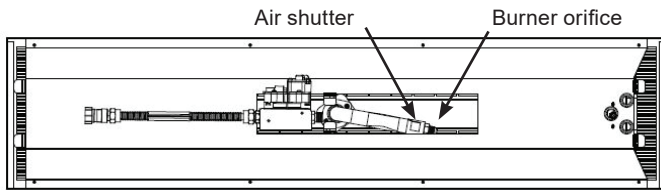

Figure 5. Bottom of engine
1. Remove existing burner orifice and replace it with the appropriate burner orifice included in the conversion kit. See Table 1. and Figure 5.